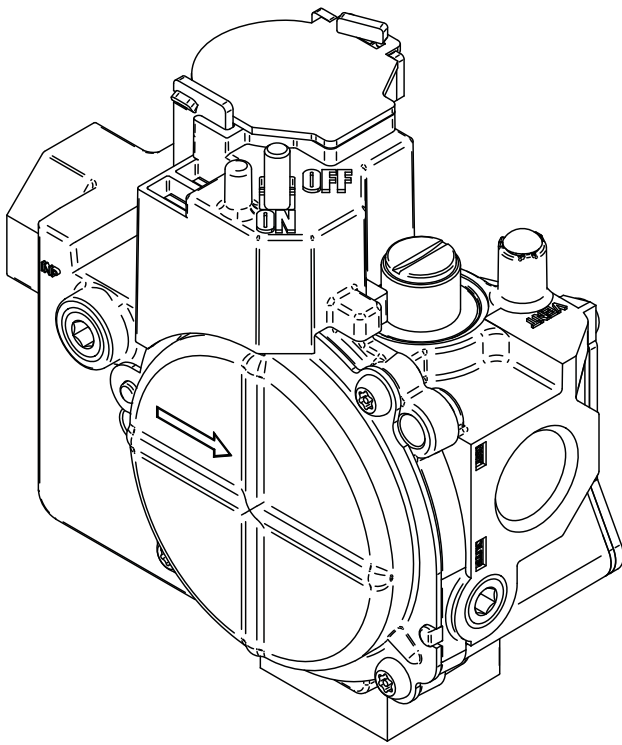

Fig. 47 – Gas Control Valve
- Remove manifold pressure tap plug from gas valve. (See Fig. 47.)